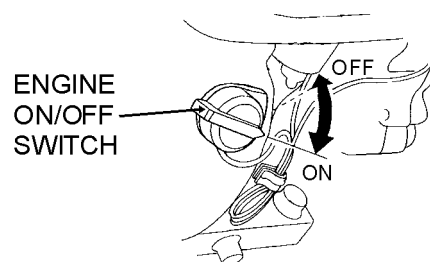

Figure 25. Engine ON/Off Switch (engine)
- Turn the **engine ON/OFF switch** (Figure 25) to the "**OFF**" position.